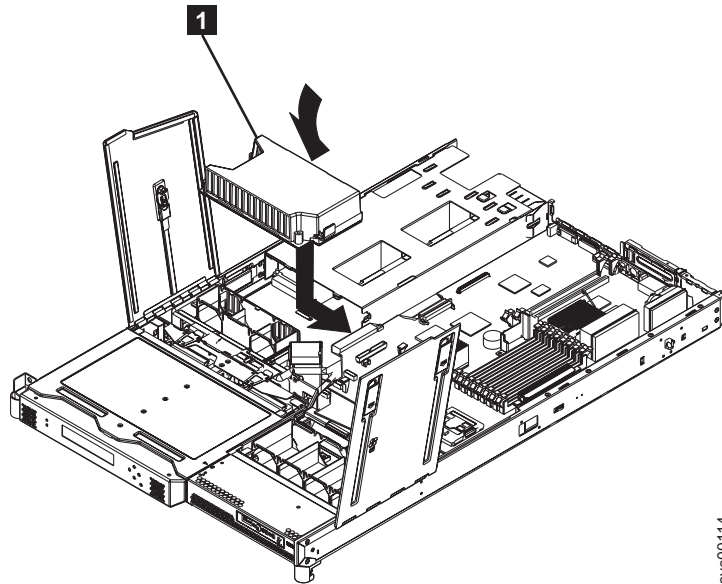

Figure 108. Replacing the power backplane
1. Lower the power backplane into position on the SAN Volume Controller 2145-8F2 or SAN Volume Controller 2145-8F4 and slide it to the right to connect it to the system board. See Figure 108 on page 325.